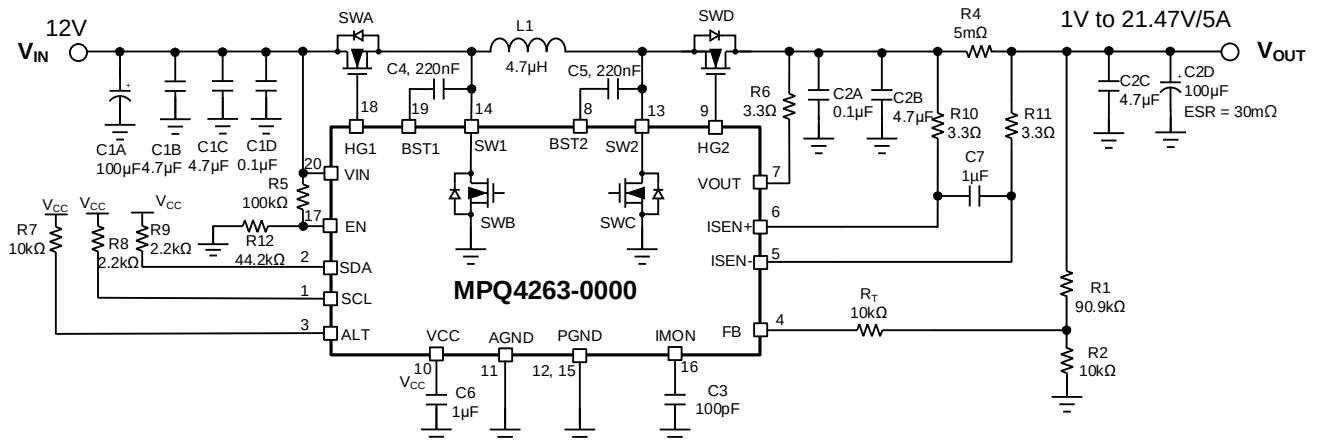

Figure 16: Typical Application Circuit ( $V_{IN} = 12V$ ,  $V_{OUT} = 3.3V$  to  $21V$ , Default On)
- 9) The recommended layout is based on the typical application circuit (see Figure 16 on page 42).